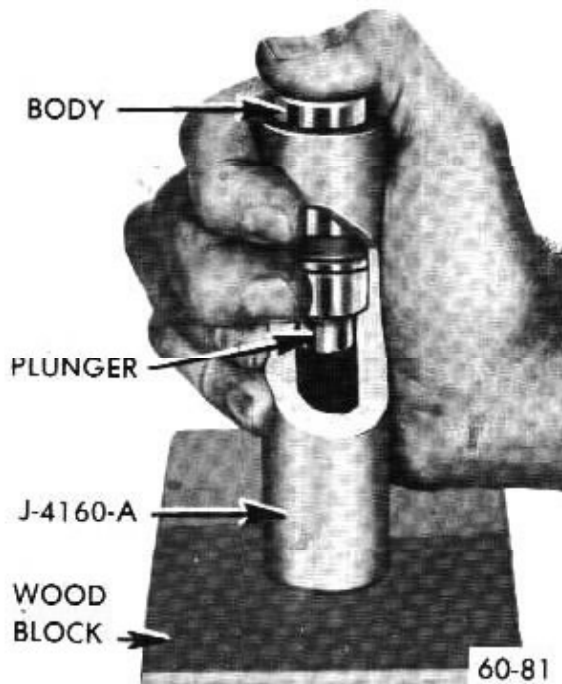

Figure 60-85 Removing Stuck Plunger
- If a plunger sticks in lifter body, place lifter in large end of Plunger Remover J-4160-A with plunger inward. While holding lifter with thumb, rap the open end of remover against a block of wood with just enough force to jar the plunger from body. See Figure 60-85.